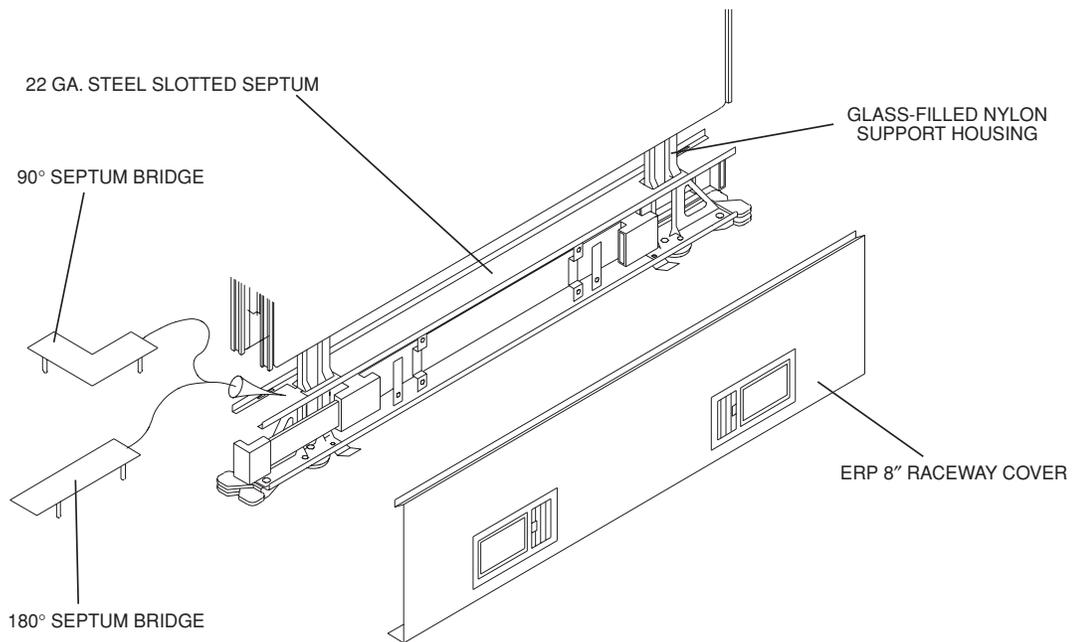

FIG. 1
2. Bend the 4 tabs down 90° on each end of the steel 90° steel septum bridges (Fig. 1).